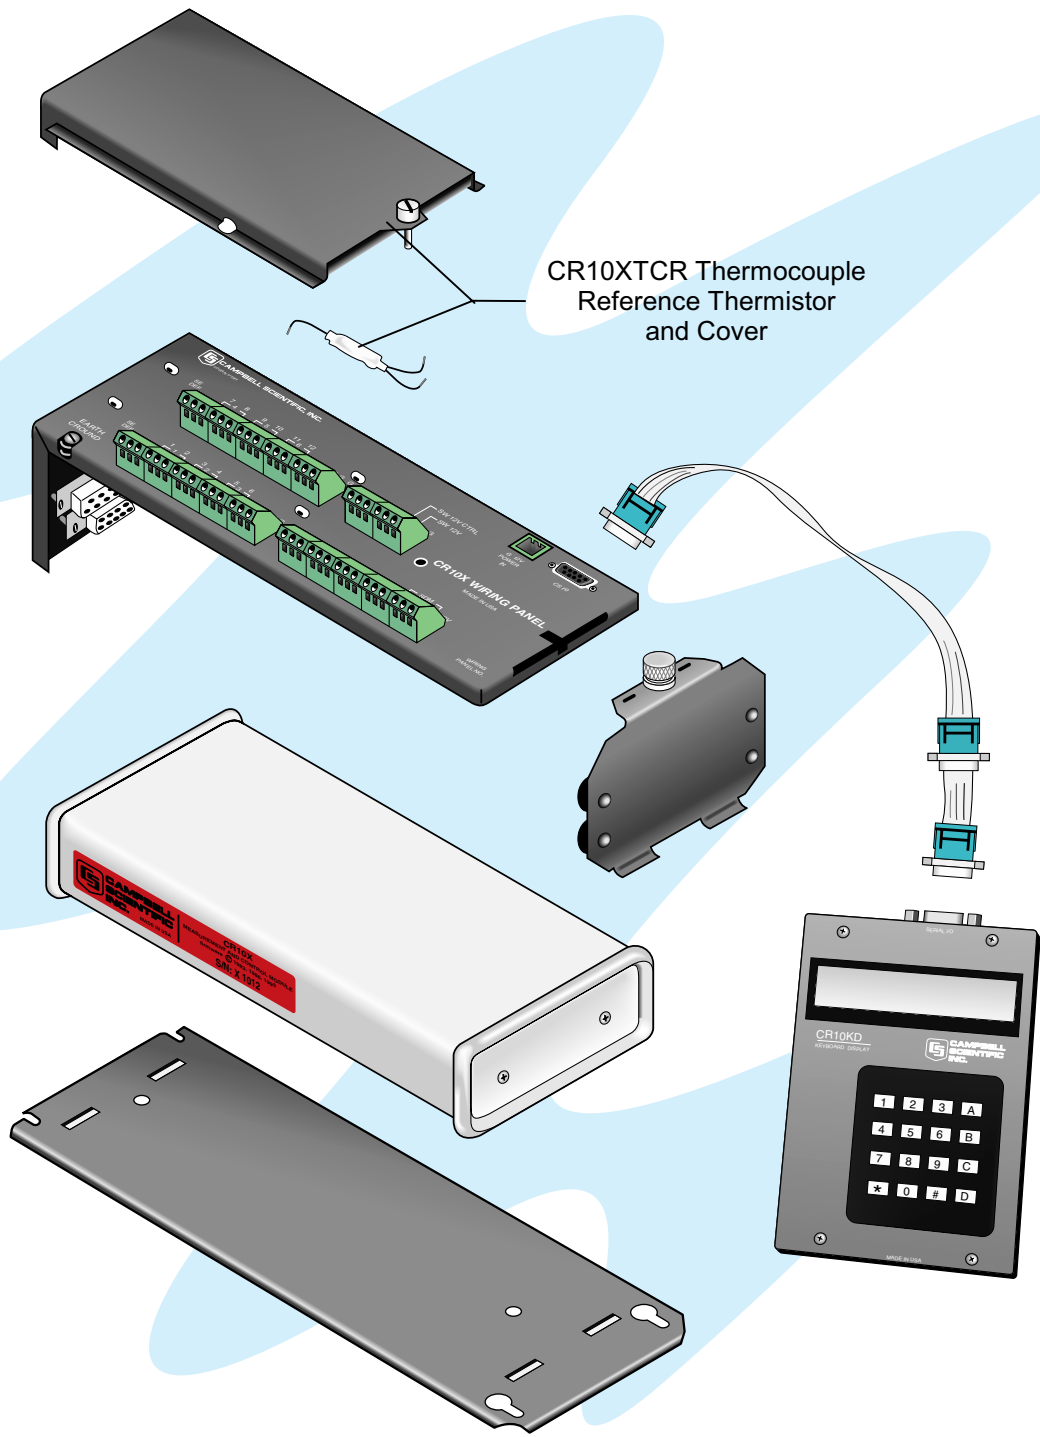

FIGURE OV1.1-1. CR10X and Wiring Panel, CR10KD, and CR10XTCR
- The CR10X does not have an integral terminal strip. A removable wiring panel (Figure OV1.1-1) performs this function and attaches to the two D-type connectors located at the end of the module.